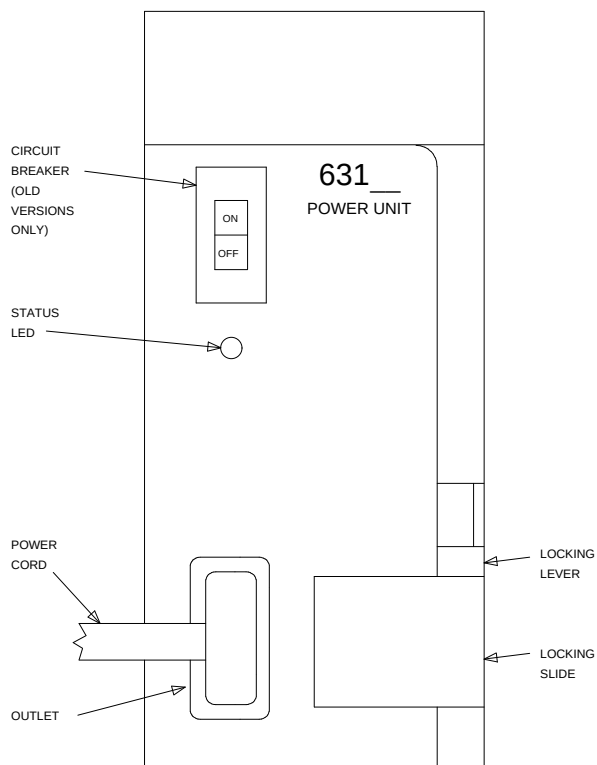

Figure 12-24. 631-Type Power Unit
- a. Operate circuit breaker on power unit to be added to OFF position. (See Figure 12-24.)
- b. Move locking slide on power unit to its left-most position (see Figure 12-24) and open lever.
- e. Move locking slide on power unit to its right-most position (see Figure 12-24).